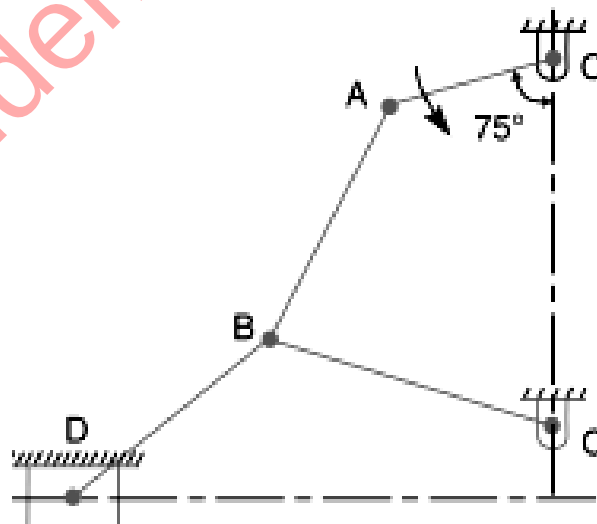

Figure 5
- (b) In Fig. 5, the angular velocity of the crank OA is 600 rpm. Determine the linear velocity of the slider D and the angular velocity of the link BD, when the crank is inclined at an angle of 75° to the vertical. The dimensions of various links are: OA = 28 mm; AB = 44 mm; BC = 49 mm; and BD = 46 mm. The centre distance between the centres of rotation O and C is 65 mm. The path of travel of the slider is 11 mm below the fixed point C. The slider moves along a horizontal path and OC is vertical. 10